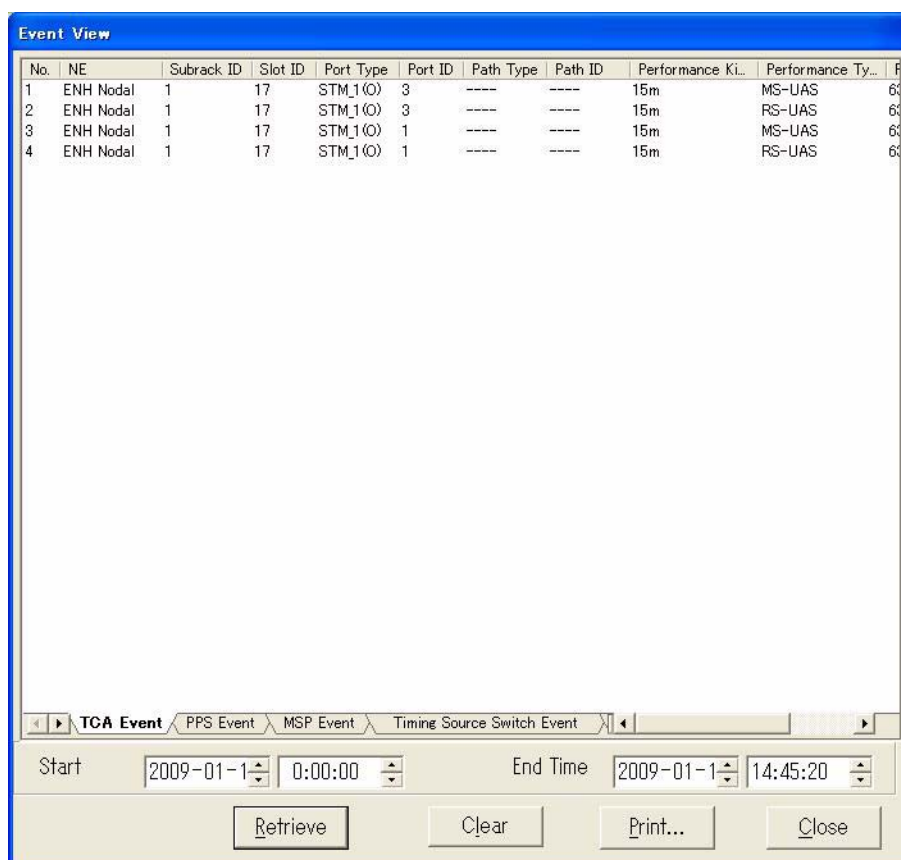

Fig. 4-7-9 Event View Dialog Box with TCA Event Tab
- 3 Select **Event View** from the **Alarm** menu. The **Event View** dialog box shown in *Fig. 4-7-9* appears: